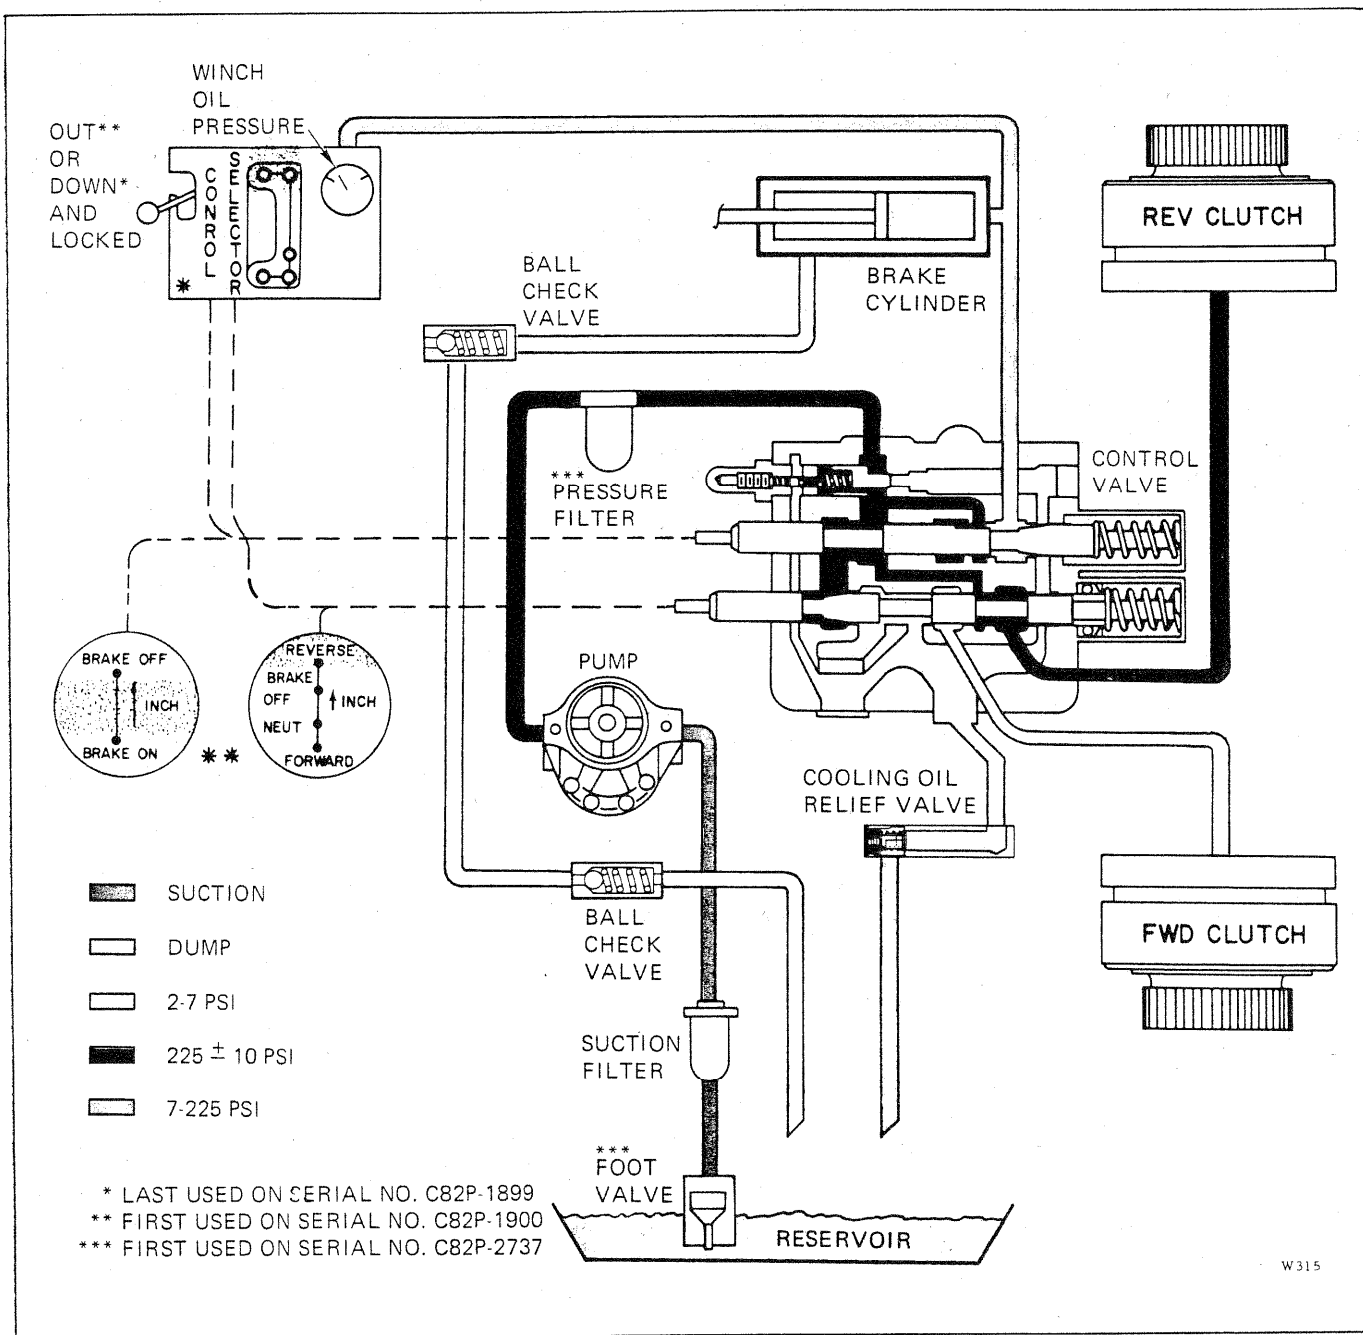

FIGURE 1-24. HYDRAULIC FLOW DIAGRAM, REVERSE INCHING, BRAKE SLIPPING
1-45. HYDRAULIC SYSTEM IN REVERSE INCHING, BRAKE SLIPPING. (See Figure 1-24.) On Early Production Handling Gear, the system is placed in REVERSE INCHING OPERATION by: (1) Moving the Control Lever Up and locking it in place and (2)